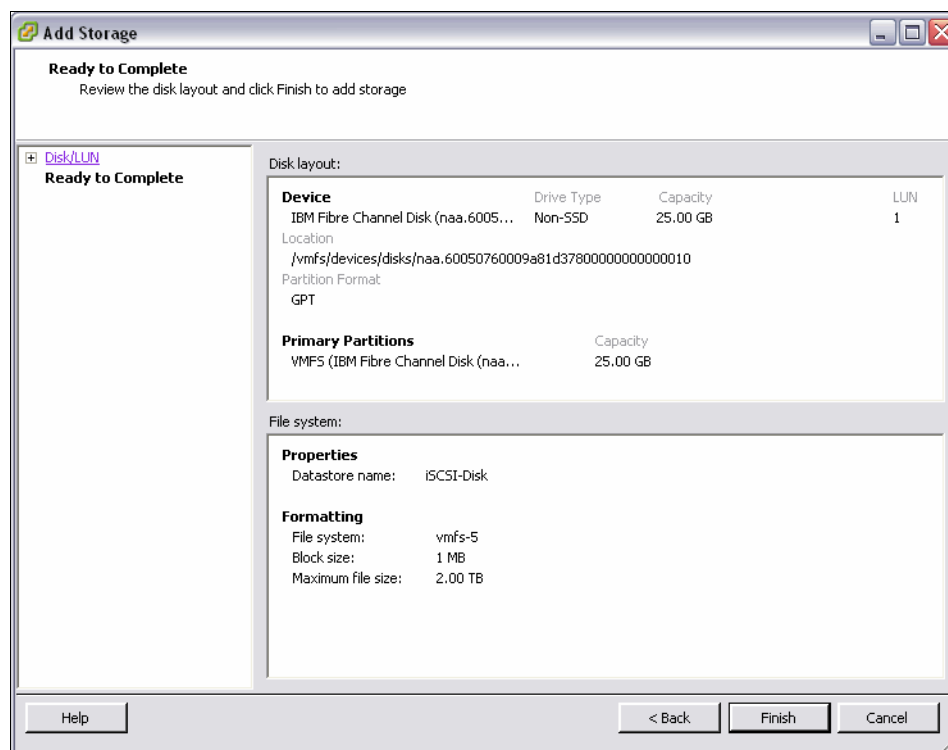

Figure 5-73 Finish the wizard
14. Review your selections and click **Finish**, as shown in Figure 5-73.